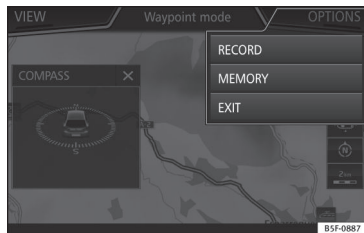

Fig. 184 Offroad Navigation Menu start
- The Offroad Navigation menu opens >>> **Fig. 184**.